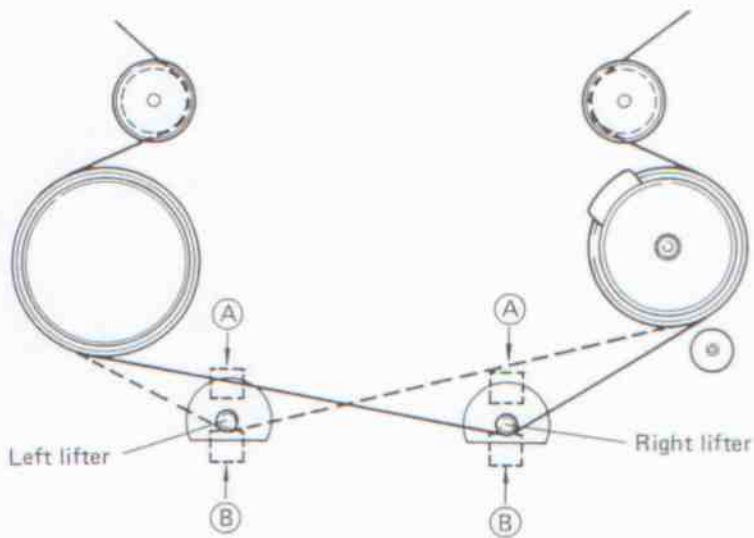

Fig. 5. Tape Lifter Azimuth
8. Refer to Fig. 5 and thread the tape onto the left lifter and run the tape in REW, then rethread the tape onto the right lifter and again run the tape in REW.
- a. slide upward at the tachometer roller, apply a shim to recessed side (A) shown in Fig. 5.
- b. slide downward at the tachometer roller, apply a shim to front side (B) shown in Fig. 5.